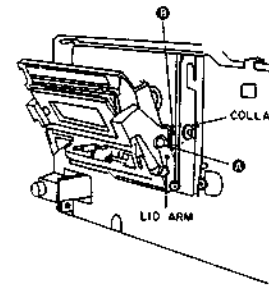

Fig. 3-1
- 2) While pulling the Ⓐ section of the LID ARM outward, press inward on the Ⓑ section of the LID CASE to disengage the LID CASE from the collar and LID ARM (Refer to Fig. 3-1, 3-2)